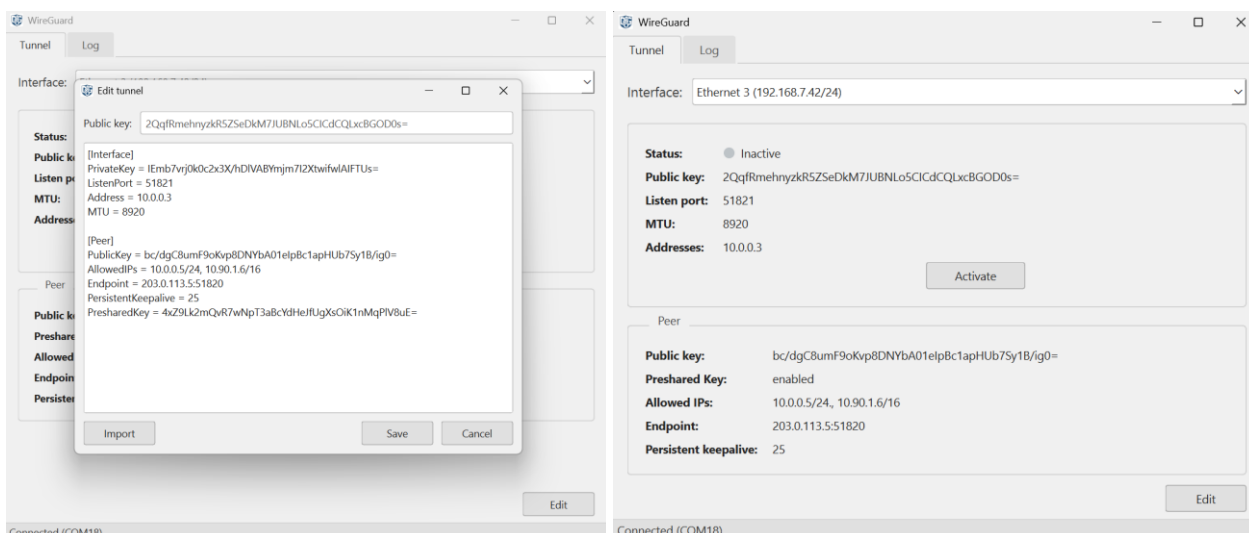

Figure 19 Parameters config
To configure the WireGuard tunnel parameters, click the “Edit” button on the Tunnel tab. The Edit Tunnel dialog will open, as shown in Figure 19.
When the user clicks “Activate”, the GUI automatically performs all configuration steps on both the FPGA (via the JTAG-UART port) and the User PC (via CLI). The following steps detail each action taken and the corresponding commands executed on the PC using the example configuration from Figure 19.
- 6) Send configuration commands set from Figure 19 to the FPGA via Nios Command Shell.